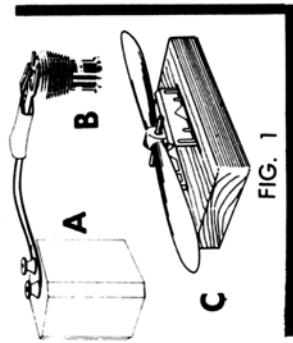

FIG. 1
4. Procure a 1 1/2 volt Cox dry cell battery, or equivalent, and connect it with 2 flexible insulated wires to the glow plug clip as shown in the diagram A and B — Fig. 1. Do not use a stronger battery. If you do, the plug will burn out. The connections should be soldered to insure good contact, and taped to prevent bare ends of wire from getting together and "shorting" the battery. Be sure the battery is a good one. Your dealer sells batteries and glow plug clips. The Cox plastic mounted glow plug clip (Cat. No. 755-6) with wires already attached is recommended and requires no soldering.
of plastic along the edges of the blades. Fit a drill or shaft through the hole and rest the shaft on razor blades set in wooden blocks as shown in C-Fig. 1. Sand the heavy blade until the propeller will balance in a horizontal position. Care must be taken to do the sanding without spoiling the airfoil characteristics of the propeller blades. Caution: Use only nylon or wooden props. Styrene props are extremely dangerous on these engines.
5. Connect the battery by snapping the clip on the glow head B-Fig. 1.